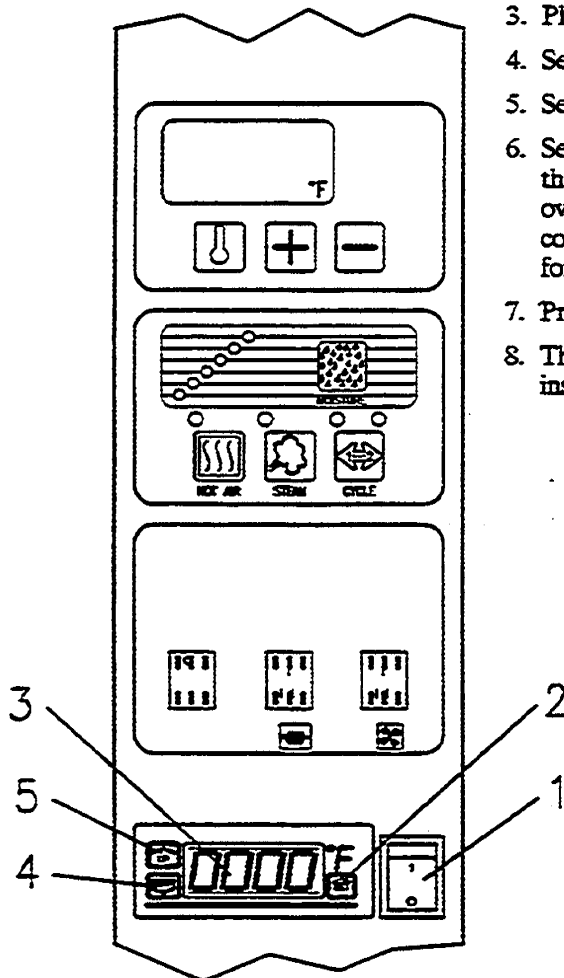

Figure 3-6. Core Temperature Sensor Controls
7. Press sensor switch (1) shown in Figure 3-6.
8. The core temperature sensor display (3) will show the temperature inside the food item in which the sensor has been inserted.